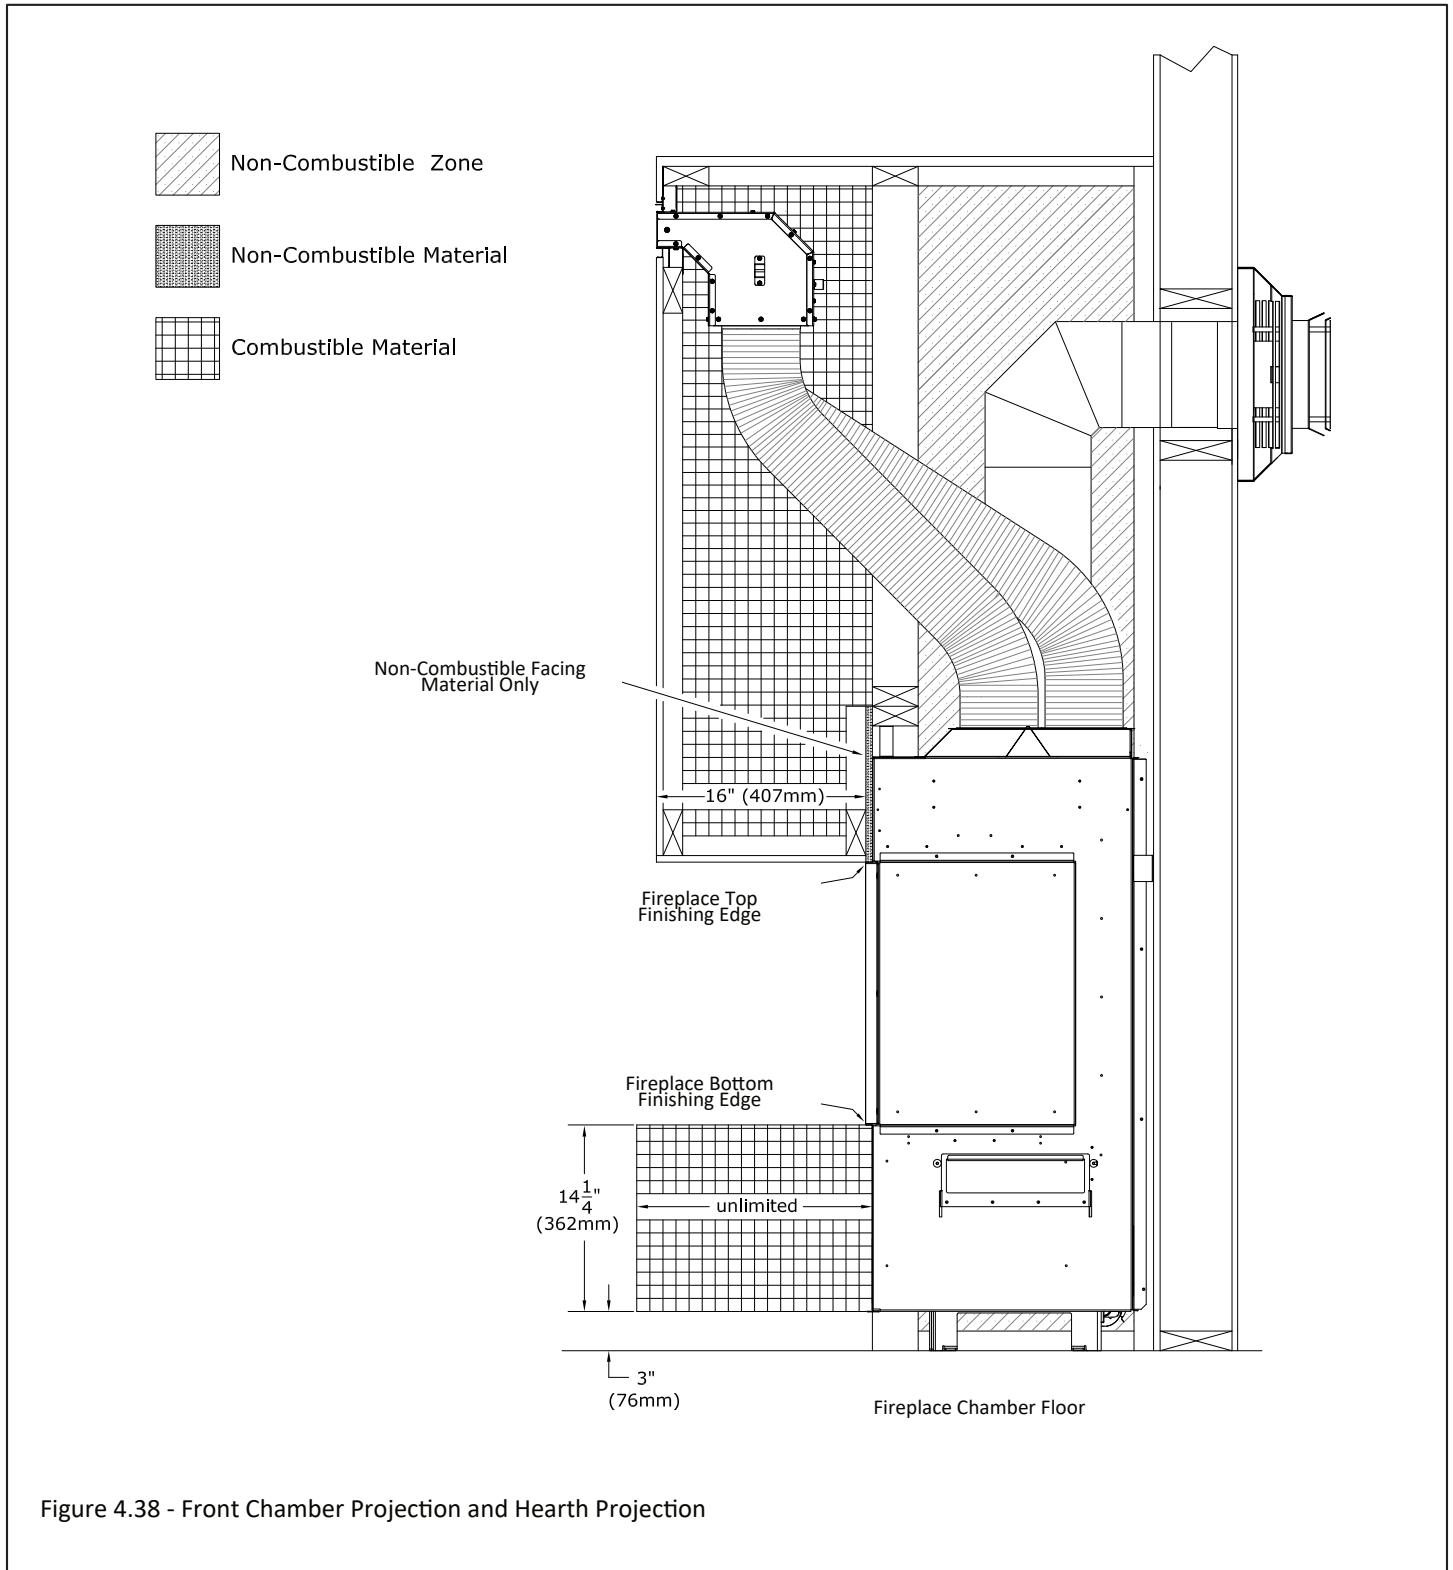

Figure 4.38 - Front Chamber Projection and Hearth Projection
- **Combustible Chamber Projections:** A maximum of a 16" (406mm) chamber projection can be installed flush at the side and top finishing edge of the fireplace. See Figure 4.38.
Figure 4.38 shows the KZK installed in a 16" front chamber projection.